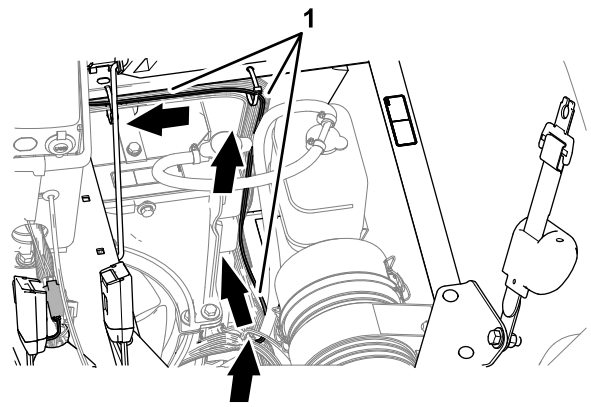

Figure 35
6. At the right side of the radiator, rout the ISO-CAN bus harness up, along the machine wire harness, and toward the center console (Figure 35).